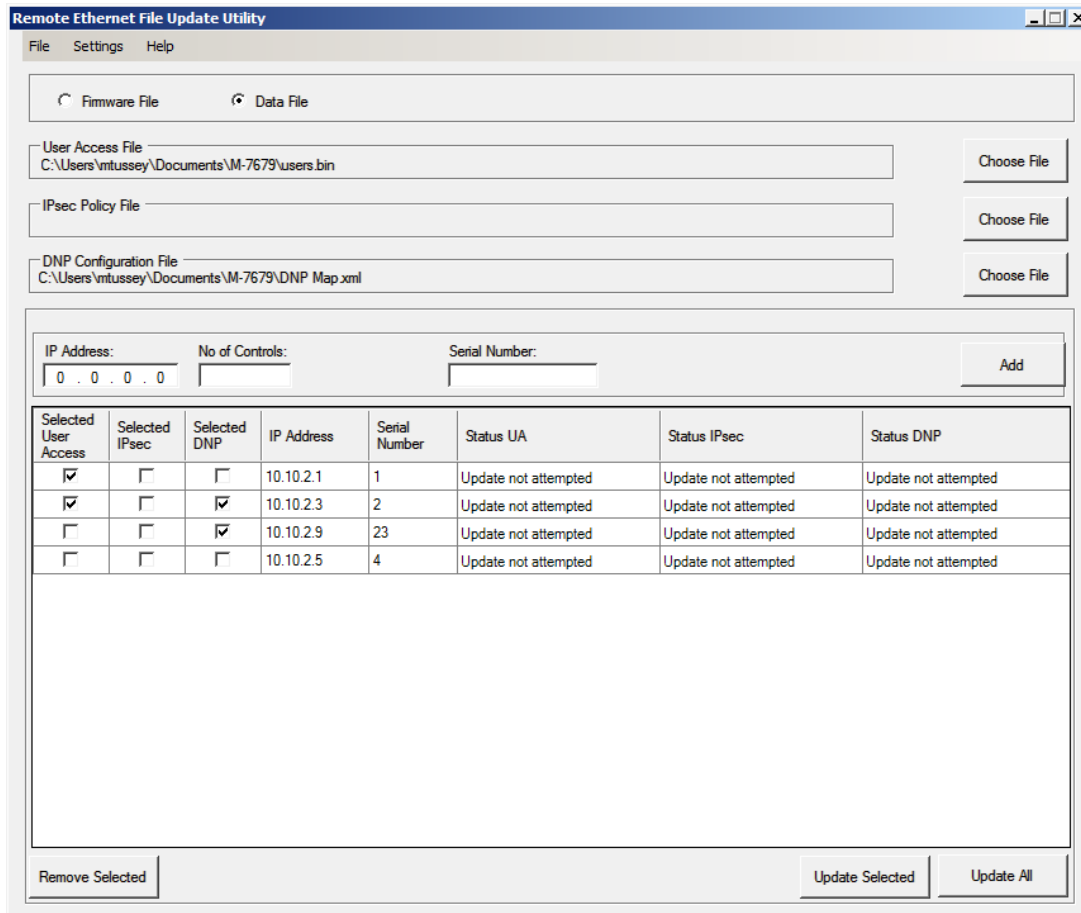

Figure 2-5 Remote Ethernet File Update Utility (Data File) Screen
3. Select "Data File". The REFU Data File screen will be displayed (Figure 2-5).